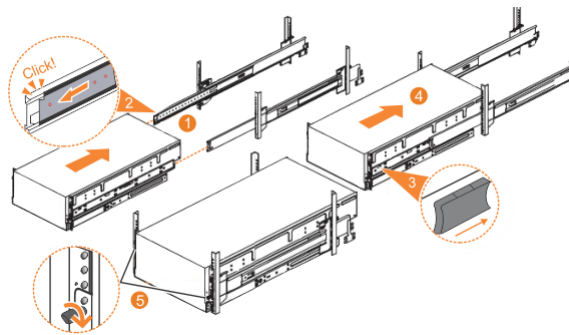

Figure 45. Replacing the 5U enclosure in the rack
1. Fully extend the left and right drawer sections from the rack to lock the rails in the extended position (**1** in Figure 45 on page 88).
2. Ensure that the ball bearing retainer clicks into place inside the front of the left and right drawer sections (**2** in Figure 45 on page 88).
6. Locate the left and right blue release tabs near the front of the enclosure. Press both release tabs forward to unlock the drawer mechanism (3 in Figure 45 on page 88).
7. Push the enclosure firmly into the rack (4 in Figure 45 on page 88).
8. Tighten the locking thumb screws (5 in Figure 45 on page 88) to secure the enclosure in the rack.